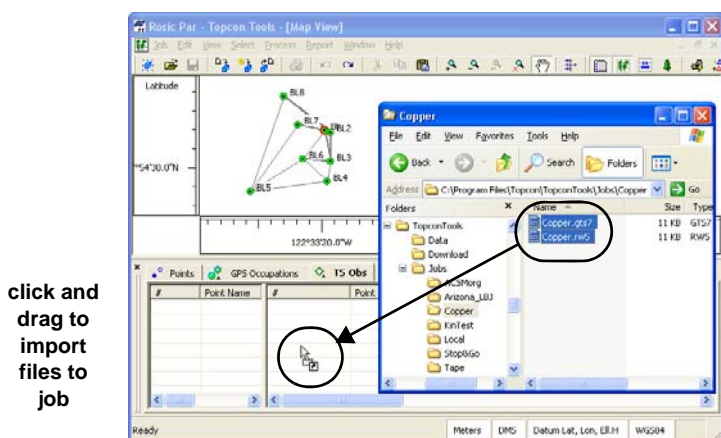

Figure 3-1. Import Data Into Existing Job Using Drag-and-drop
4. Click and hold the selected data, then drag-and-drop the files into Topcon Tools (either Map or Tabular view) (Figure 3-1 on page 3-3).